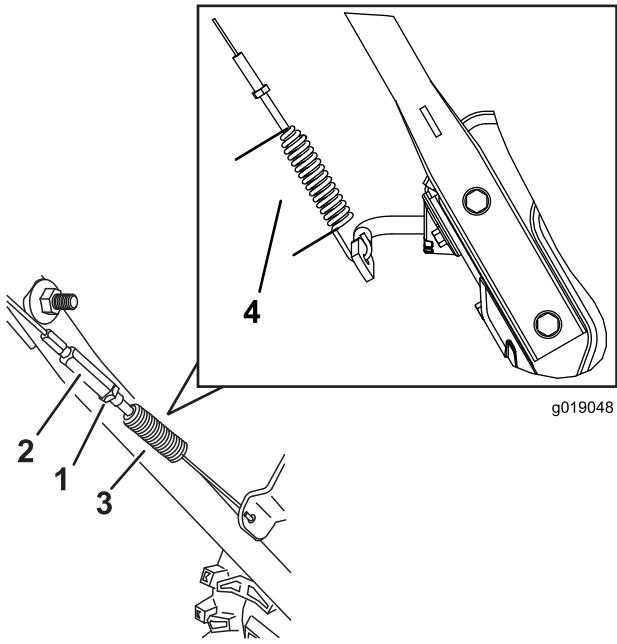

Figure 39
3. Loosen or tighten the turnbuckle to adjust spring length to 2.18 inches (5.5 cm) (Figure 39).
4. Tighten the jam nut (Figure 39), ensuring there is slight tension on the cable.